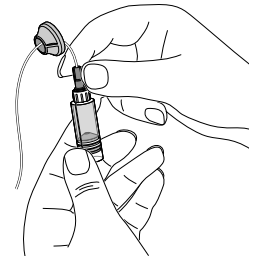

Figure 8
2. Thread the infusion set tubing through the cartridge cap; remove the protective cap from the luer end of the infusion set and insert the luer through the hole in the cap and firmly tighten it onto the tip of the filled cartridge (see Figure 8).